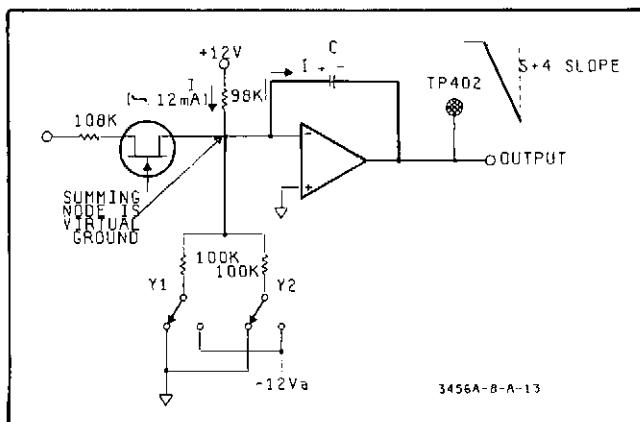

Figure 8-13. Simplified Schematic Of S+4 Slope Generation Circuit.
8-61. S +4 and S -4 Slope Generation. Figures 8-13 and 8-14 are simplified illustrations that show the slope generation concept used by the 3456A. The lower ends of both Y1 and Y2 circuit paths are switched to ground to generate an $S +4$ slope (see Figure 8-13). For this condition, there is no current flow between the summing node (virtual ground) and the grounded Y1/Y2 circuit paths. Current (I) from the +12 V reference supply flows through the summing node into the integrating capacitor (note polarity of capacitor charge). This generates the negative going ramp ($S +4$ slope) shown at the output of the integrator.